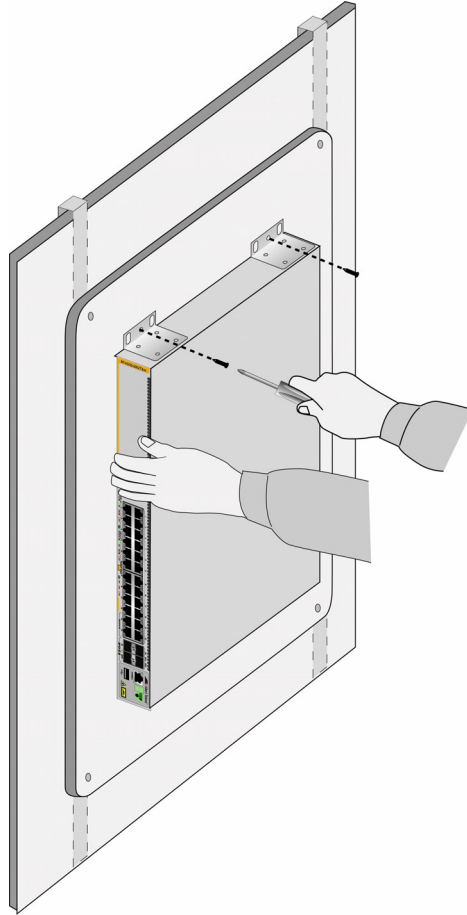
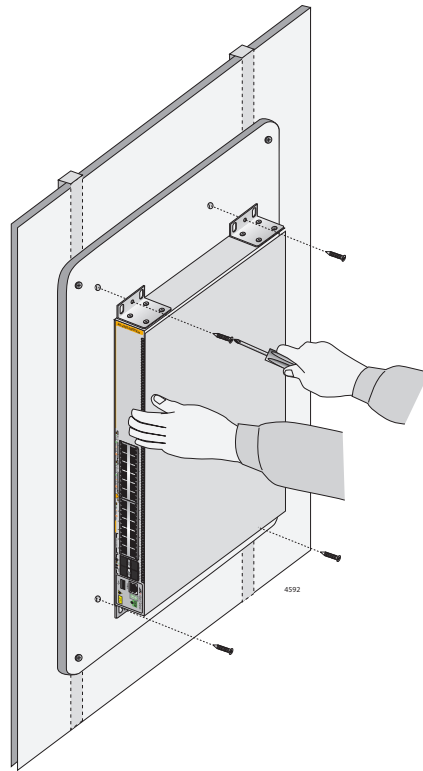

Figure 35. Securing the x530-28GTXm Switch to the Plywood Base
Figure 36. Securing the x530-10GHXm, x530-18GHXm, x530-28GPXm, x530-52GTXm or x530-52GPXm Switch to the Plywood Base
3. After attaching the brackets, have another person hold the switch on the plywood base on the wall while you secure it with the M4x32.3mm screws included with the switch. Refer to Figure 35 on page 85 for the x530-28GTXm switch. Refer to Figure 36 on page 86 for the x530-10GHXm, x530-18GHXm, x530-28GPXm, x530-52GTXm or x530-52GPXm switch.